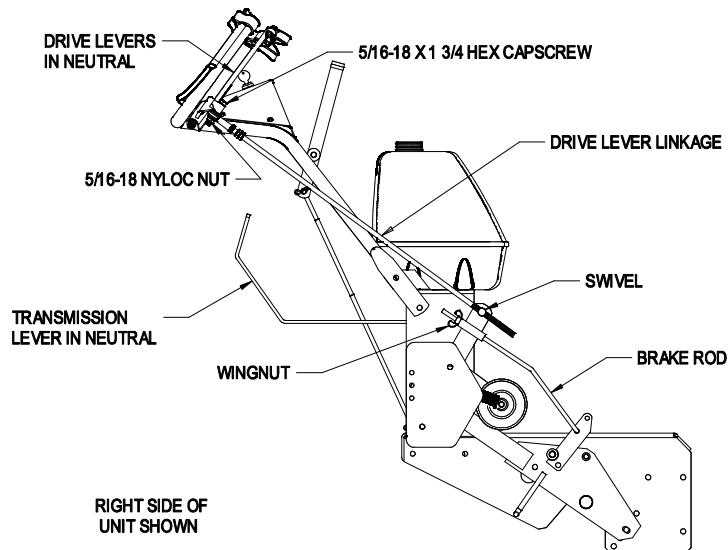

FIGURE 11
- a) Locate the drive lever linkages which have the balljoint and jam nuts installed on one end. Locate the (2) 5/16-18 x 1 3/4 Hex cap screws and (2) 5/16-18 nyloc nuts in the bolt bag. Thread drive lever linkage into the swivel located on the wheel drive idler arm. Thread in until the flat edge of the drive lever aligns with bottom of the roller notch in the neutral lock/park brake latch when the 5/16-18 x 1 3/4 hex cap screw is inserted through the hole in the drive lever and the hole in the balljoint. Secure with the 5/16-18 nyloc nut. Tighten nut. Repeat for the other side. See Figures 11 and 12.